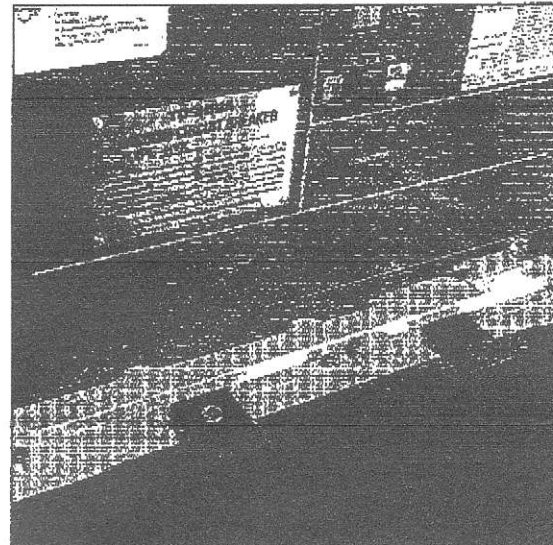

Fig. 21 Lifter Bucket Tab over Cell Stud
- a) The bucket tab is lowered over the cell stud to insure the lifter does not move (Fig. 21).